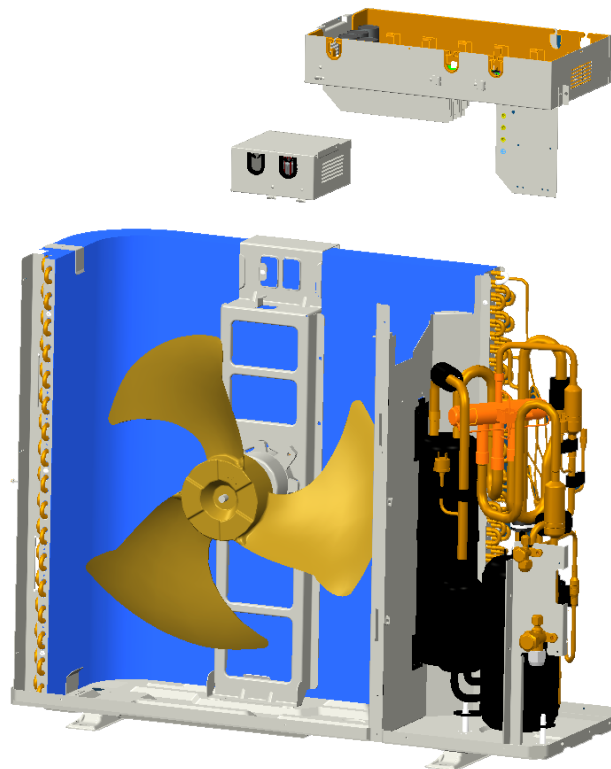

Fig.8
- Loosen the two tapping screws, and remove the Electric Box Assy .[See Fig. 8]